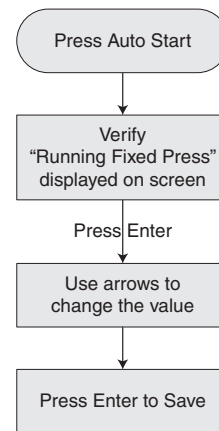

Figure 13 - Pump Running: Change PSI Setpoint
- ◆ While running the pump: Follow keypress sequence shown in Figure 13 to make desired change. This parameter allows either Internal or External Setpoint to be changed, depending on which one is referenced at the time the change is made.